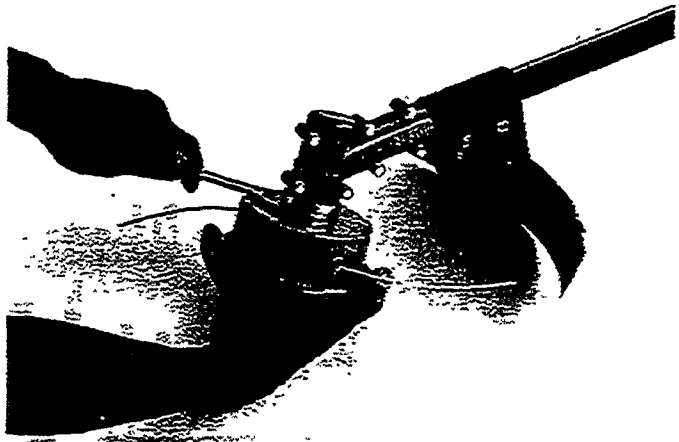

Figure 13
- While holding holder (B) with large spanner wrench, thread rotary head onto gear case as shown in (Figure 13). Tighten rotary head as tight as possible by hand.